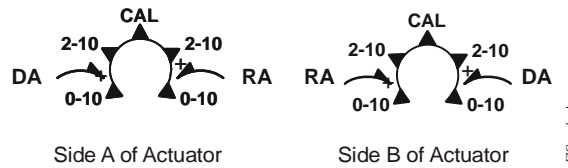

Figure 12: Mode Selection
The ES177B2(-S) Series Proportional Electric Spring Return Actuators are factory set for Direct Acting (DA) operation. In DA mode, applying an increasing input signal to the control input drives the actuator away from the spring return position. Reverse Acting (RA) operation is also available. In RA mode, applying an increasing input signal to the control input drives the actuator toward the spring return position. Figure 11 and Figure 12 indicate how the drive direction for the actuator depends on the spring return direction and the position of the mode selection switch.
The ES177B2(-S) Series Proportional Electric Spring Return Actuators are factory set at Direct Acting (DA), DC 0 to 10 V control input (Figure 12). To change to RA operation, move the mode selection switch from DA to RA. The DC input signal is selectable from DC 0 to 10 V or from DC 2 to 10 V, which corresponds to 0 to 95° rotation. If the rotation range is reduced, the end-stop is reached with a reduced input signal. For example, if a DC 0 to 10 V input signal is selected and the rotation range is limited to 75°, the end-stop is reached at DC 8.3 V. If an external 500 ohm resistor is placed across the input (see Figure 10), the switch positions then select between 0-20 mA or 4-20 mA.
1. With power off, move the mode selection switch to the CAL position (Figure 12). Then, energize the actuator. The actuator automatically rotates until the end-stops are found, and proportionally reconfigures the control input range to the reduced rotation range.